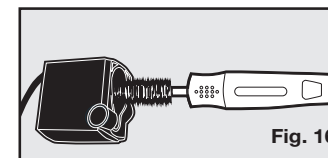

Fig. 16
- Once the pump is completely disassembled, you can clean the parts with warm water and soap. Use a cotton swab or the "motor brush" from the Drinkwell® Cleaning Kit to clean inside the pump's motor cavity and remove any build-up (**Fig. 16**). For added disinfecting and hard water removal, clean the pump's motor with a diluted white vinegar solution (20% white vinegar and 80% water).